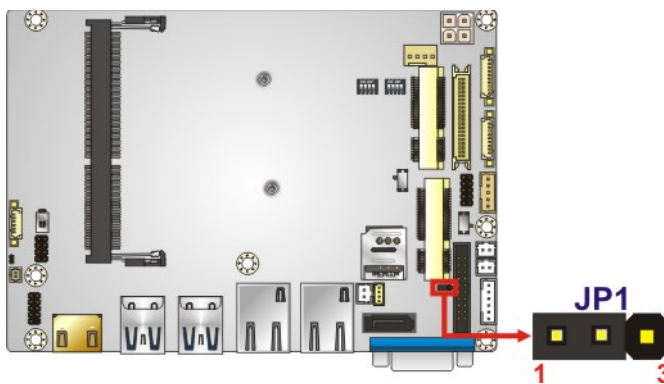

Figure 4-12: LVDS Voltage Selection Jumper Location
- Jumper Location:** See **Figure 4-12**